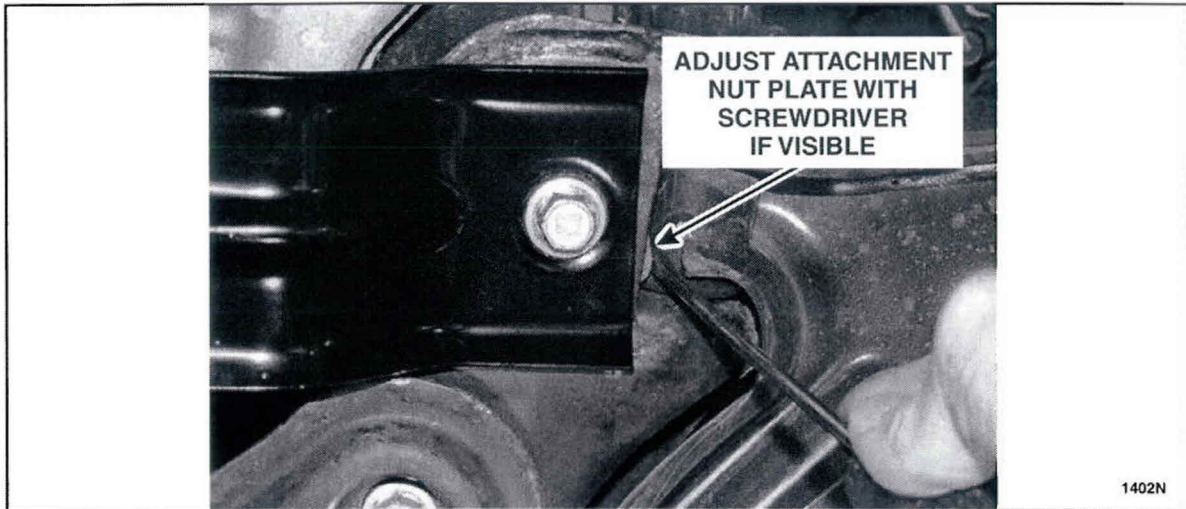

FIGURE 12
5. Check to ensure that no part of the nut plate is visible outside of the attachment location. If the nut plate is visible outside the attachment location, loosen the bolt and reposition the nut plate. After adjustment is complete, tighten the bolt to 103 Nm (75 lb-ft). See Figure 12.